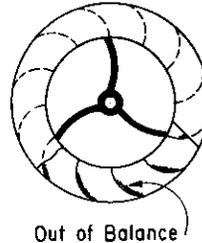

Fig. 5 - Dust Accumulations Cause Wheel Unbalance
3.01 Although the air which reaches the fan is usually relatively clean, it always contains a quantity of finely divided dust. Over a long period of time this dust frequently accumulates in a dense layer on the forward surface of the rotor blades. Such accumulations, by altering the shape of the surface of the blades, reduce the efficiency of the fan. An accumulation of dirt can also cause a centrifugal unbalance in the fan, Fig. 5. Any substantial amount of dirt should not be allowed to build up on the blades or fan housing.